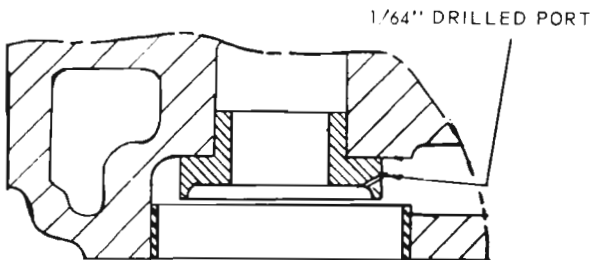

Figure 11
7.1.2 The back flow check valve bushing must be drilled with one $\frac{1}{64}$ ” drill size by-pass port. Port may be drilled through the check valve seat in accordance with Figure 11.